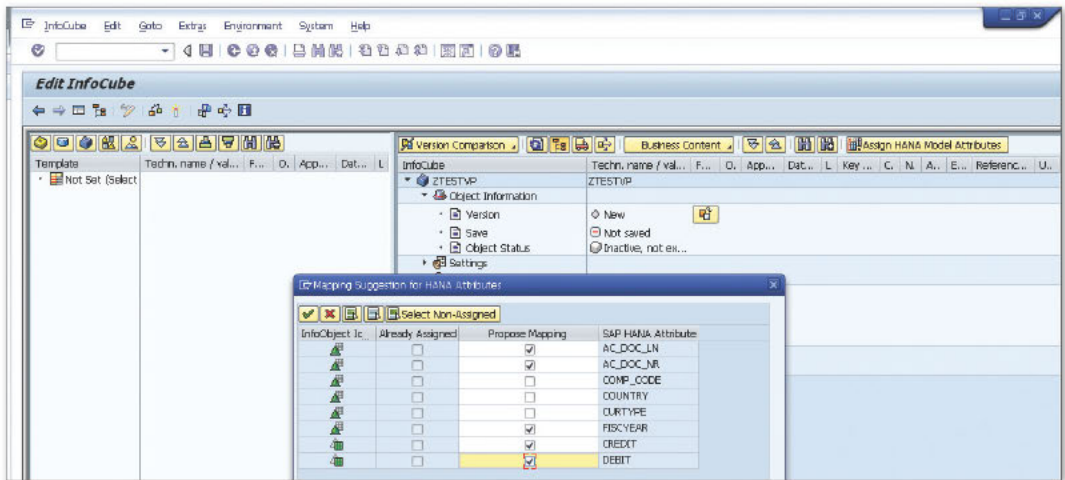

Figure 2 Selecting the SAP HANA Analytical View Fields for Mapping
6. In the next screen that appears, click on the ASSIGN HANA MODEL ATTRIBUTES button at the top-right side of the screen. In the screen that pops up, you can select the required fields from the SAP HANA analytical view that you plan to use in the VirtualProvider (see Figure 2).